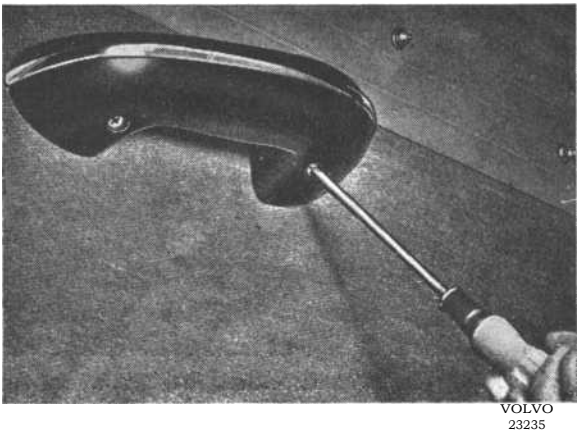

Fig. 16. Removing armrest
1. Remove the armrest, which is attached with two screws accessible from underneath the armrest, see Fig. 16.